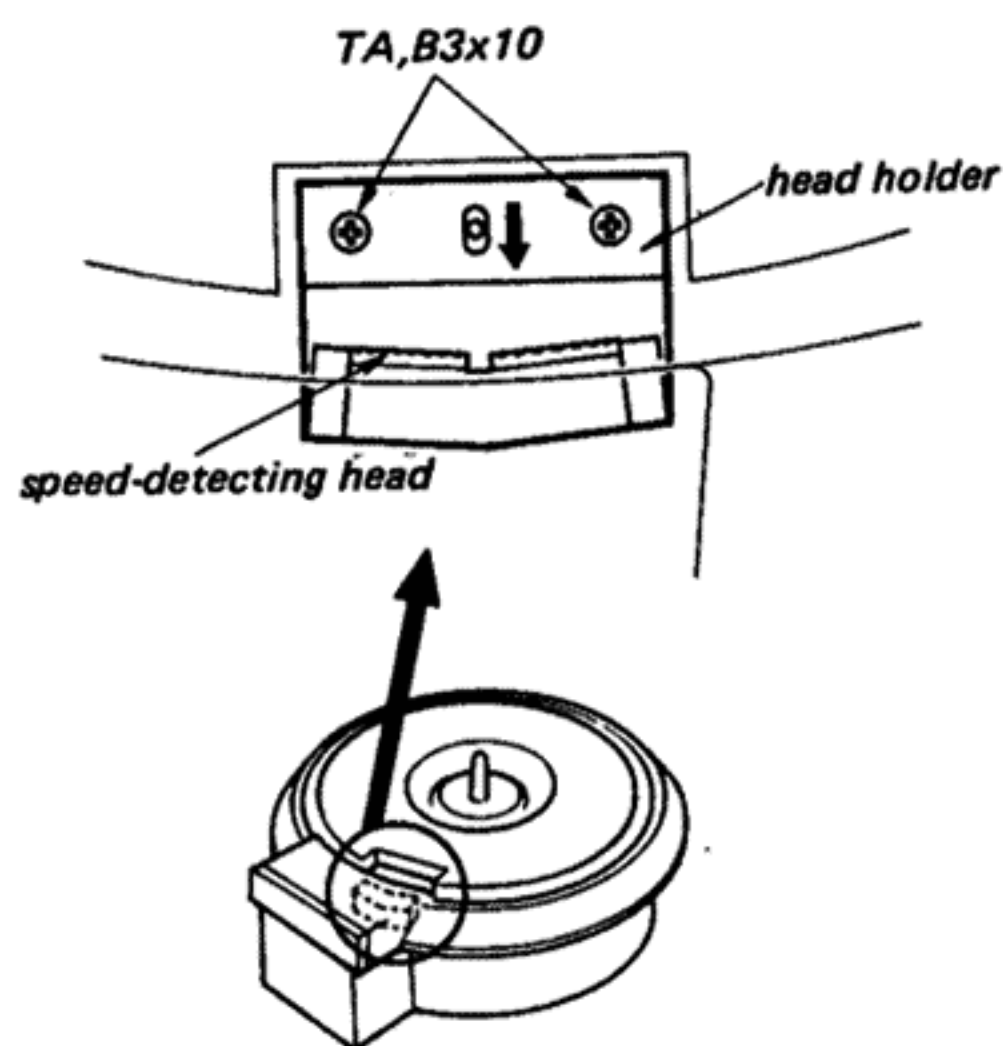

Fig. 1
- 3). Position the head holder in the direction shown by the arrow in Fig. 1 sufficiently. Fix the head holder (assembled with the speed detecting head) to the frame temporarily.